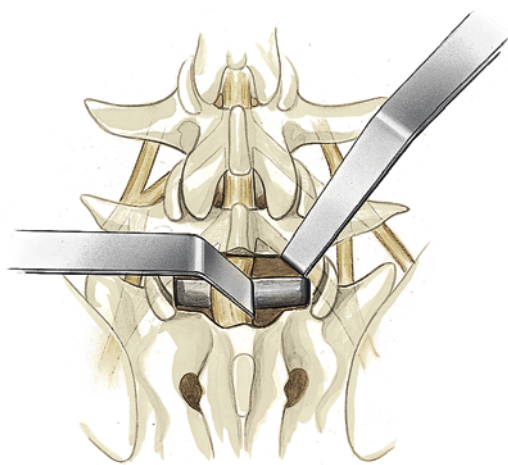

Fig. 1
- The dura and upper nerve root are carefully retracted in the desired direction using the nerve root retractors (Fig. 1).